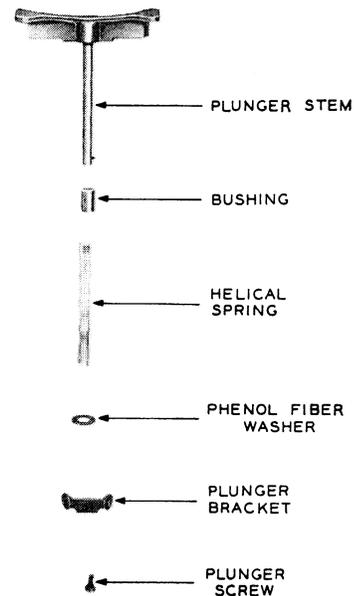

FIG. 6 — PLUNGER ASSEMBLY
- 4.04 When replacing plunger assembly, the phenol-fiber washer must be placed on the plunger stem prior to the plunger bracket (see Fig. 6).